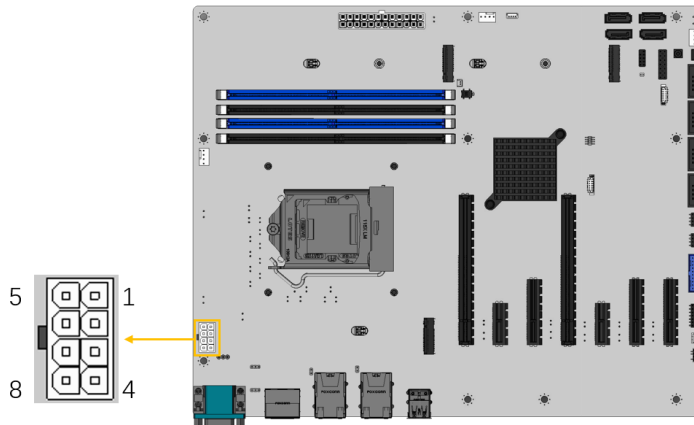

Figure 3-2: CPU 12V Power Connector Location
- CN Location:** See **Figure 3-2**